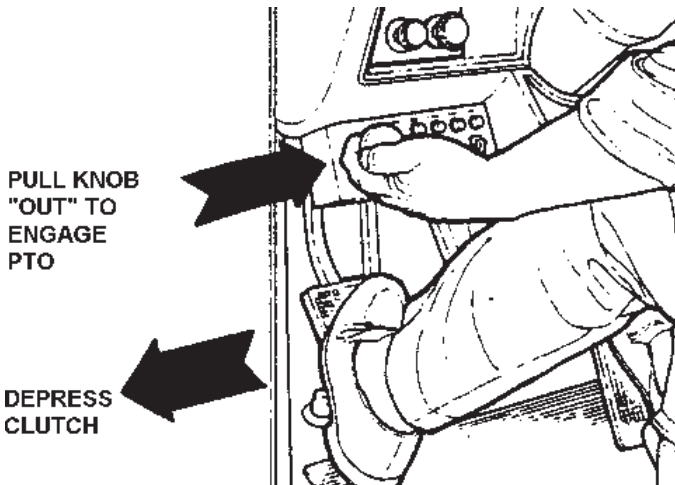

FIGURE 4.1
- (b) Reduce truck's engine to idle and apply parking brake. Depress clutch, place transmission in neutral and engage PTO by pulling knob located on panel in cab. See Figure 4.1.
(b) Reduce truck's engine to an idle and apply parking brake. Depress clutch, place transmission in neutral and engage PTO by pulling out knob located on the dash panel in truck cab. Refer to Figure 4.1.